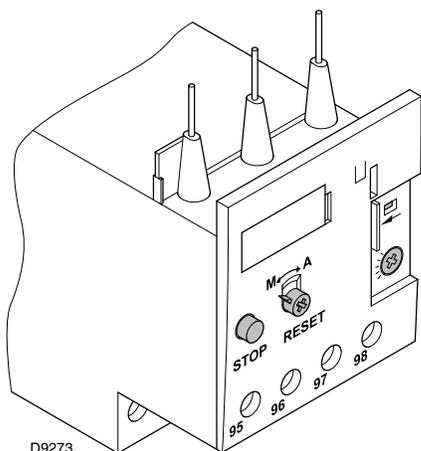

Fig. 22
The electro-mechanical thermal relay (Fig. 22) is used to avoid damage to the motor owing to a strong increase in absorption or the lack of a phase.
- To reset, in the case of an intervention of the thermal relay, press the button "RESET" (Fig. 22).
- The button "STOP" (Fig. 22) opens the NC (95-96) contact and stops the motor.